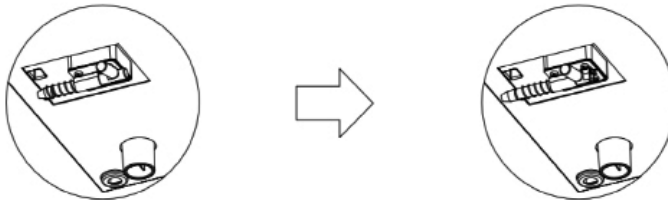

figure 1
- Place Main Unit (A) onto the top of the Storage Compartment (B).
- Ensure that the two inserting pins underneath the Main Unit (A) line up correctly so that Main Unit (A) can be locked under the beam of the Storage Compartment (C) (see figure 1).